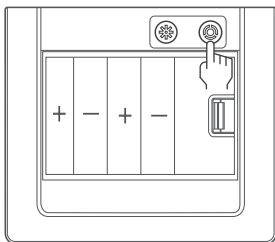

Figure 4
2. As shown in Figure 4, press the black safe mode button '  ' on the battery compartment and there will be a voice prompt 'Safe mode is on', indicating successful activation. Press the button again can turn 'Safe mode' off.